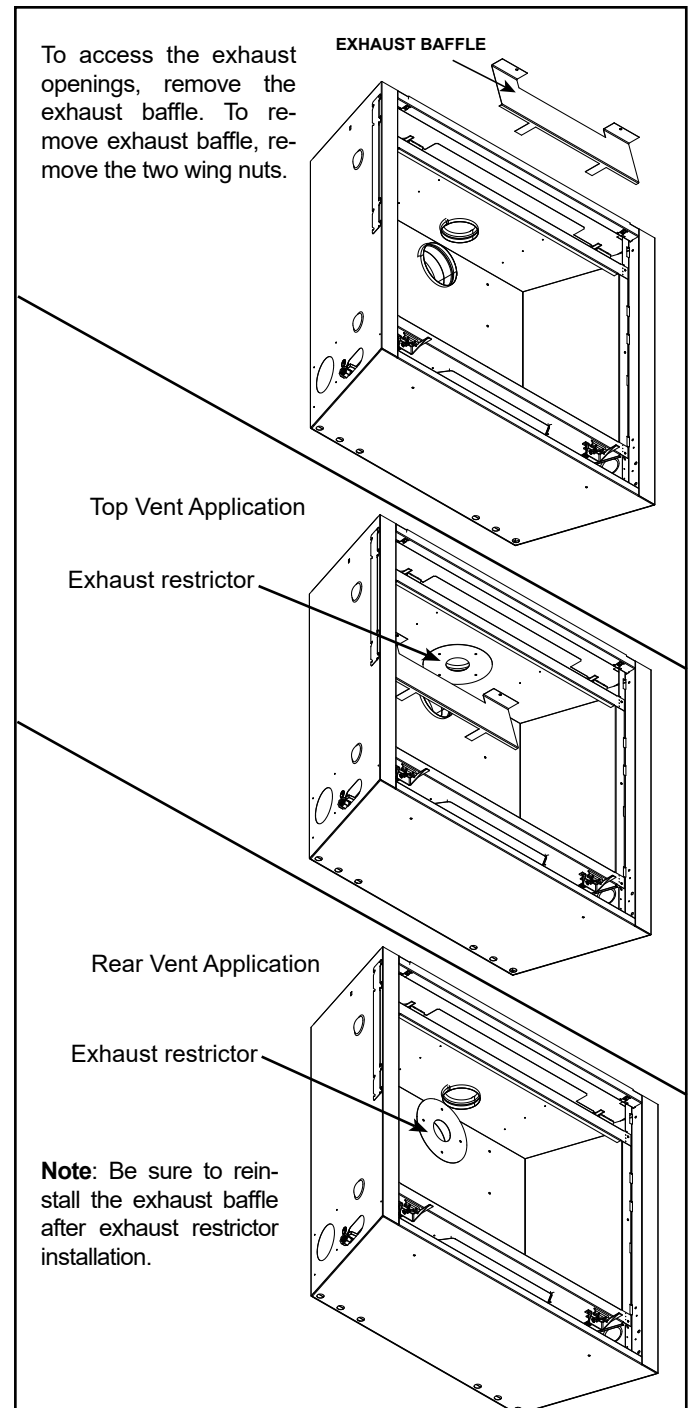

Figure 4.16
1. Install the exhaust restrictor over the center of the exhaust outlet in the firebox. See Figure 4.16.